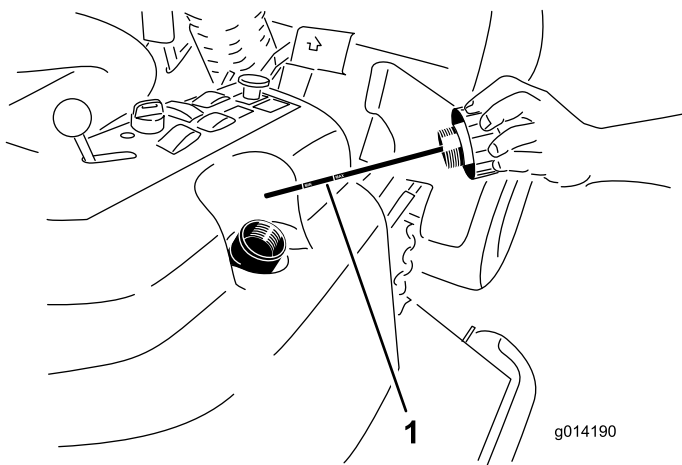

Figure 47
2. Remove the hydraulic fill cap (Figure 47) from filler neck.
3. Remove the dipstick and wipe it with a clean rag (Figure 47).
4. Screw the dipstick all the way into the filler neck; then remove it and check level of fluid (Figure 47).